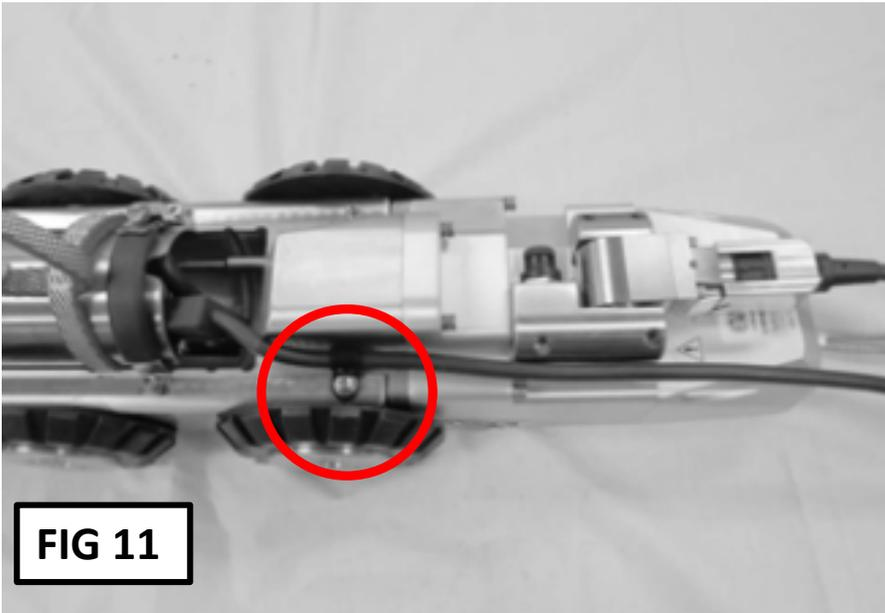

FIG 11
- SECURE THE CABLE TO THE TRANSPORTER BODY USING THE CABLE CLAMP (121003), SCREW (103031) AND WASHER (100140). SEE FIG 11.